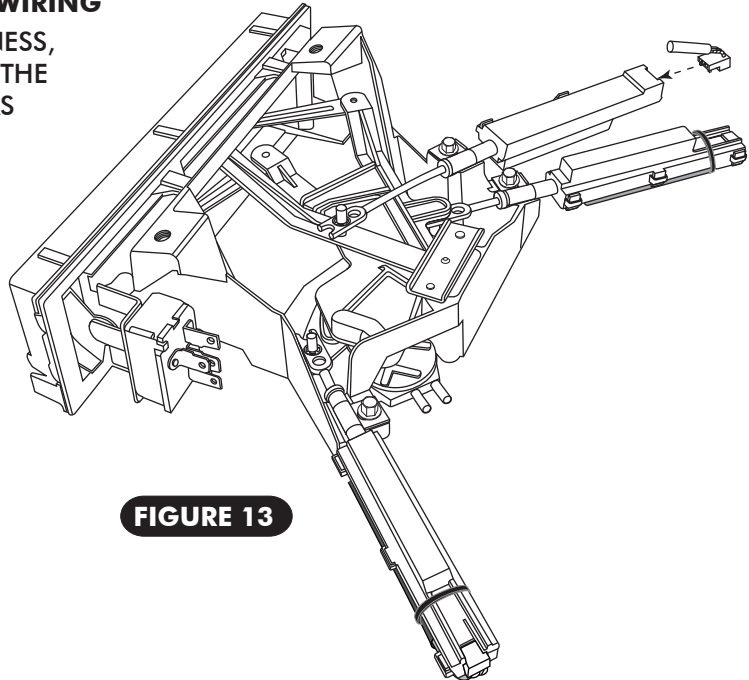

FIGURE 13
- LOCATE THE CONTROL PANEL WIRE HARNESS, PLUG THE CORRESPONDING WIRES INTO THE CORRECT CABLE CONVERTER ASSEMBLY AS SHOWN IN FIGURE 13 BELOW.